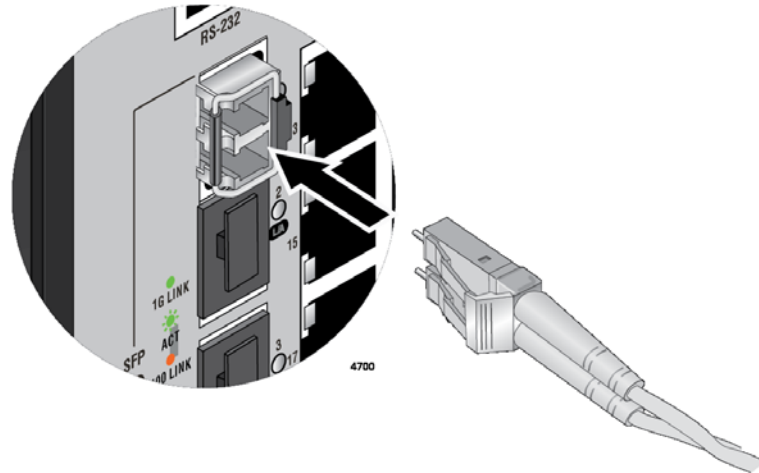

Figure 33. Connecting a Fiber Optic Cable to an SFP Transceiver
6. Connect the fiber optic cable to the transceiver. The connector on the cable should fit snugly into the port, and the tab should lock the connector into place. Refer to Figure 33 on page 93.